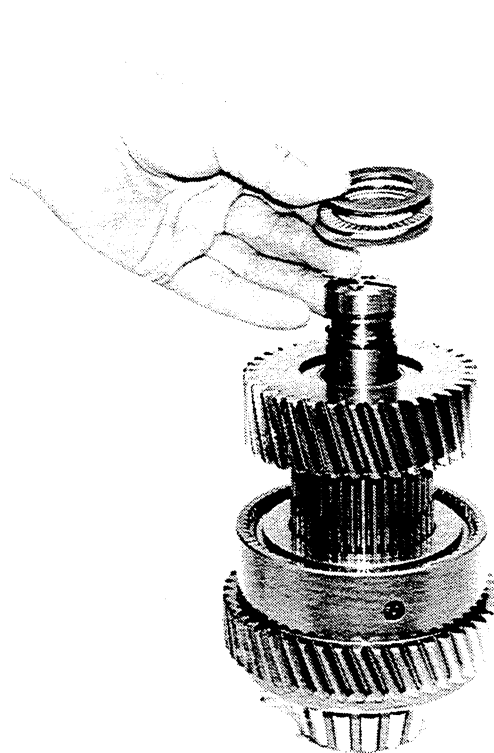

Figure 8-2. *Removing or Installing the Rear Thrust Bearing, Spacer and Washer from the Reverse Clutch Shaft.*
4. Lift clutch hub and pinion assembly (Figure 12-3, 15) and remove steel thrust washers (18 and 20) and needle thrust bearing (19). See Figure 8-2.
10. Install steel thrust washer (Figure 12-3, 18), needle thrust bearing (19), and steel thrust washer (20), in that order. See Figure 8-2.